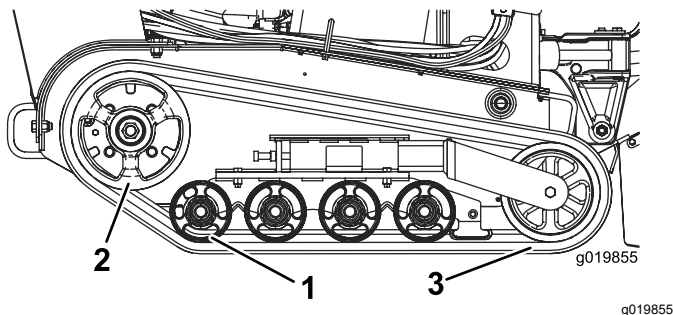

Figure 44
**Important:** Ensure that you fully clean the road wheels and the drive wheel (Figure 44). The road wheels should rotate freely when clean.
8. Beginning at the drive wheel, coil the new track around the wheel, ensuring that the lugs on the track fit between the spacers on the wheel (Figure 44).
9. Push the track under and between the rear and center road wheels (Figure 44).